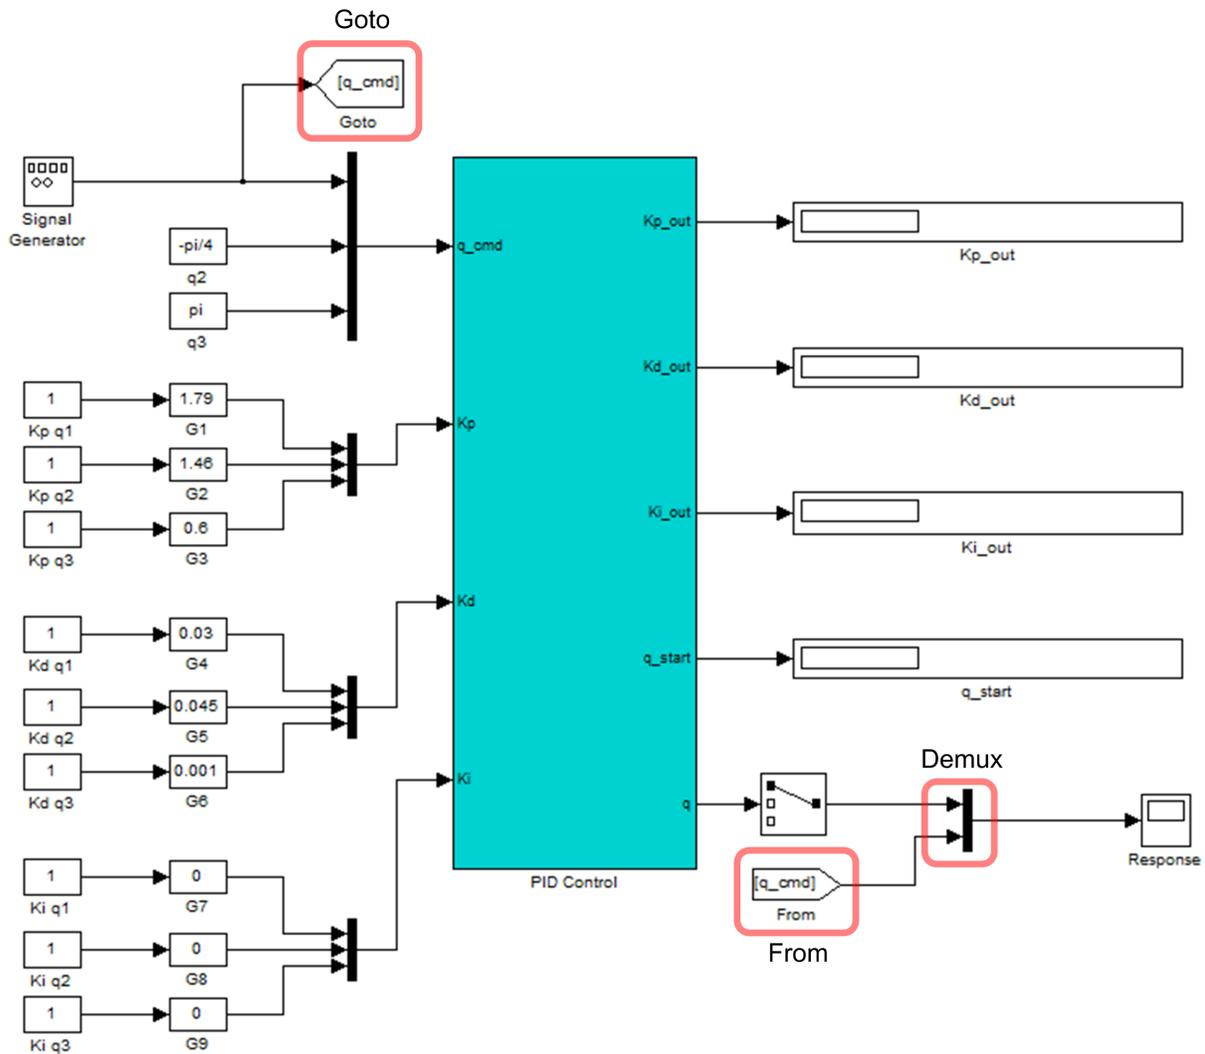

Figure 5.5: Joint 1 position control model
4. Create the model as shown in Figure 5.5. The **Goto** and **From** blocks are used to connect signals and keep the model clutter-free. In this case, the signal from the **Signal Generator** block is connected to one of the inputs of the **Mux** at the output, q . Corresponding **Goto** and **From** blocks must have the same name.
The **Demux** block shown in Figure 5.5 is used to split a signal into its components. In this case, we want to plot the actual position of joint 1 and the commanded position for joint 1 on the same plot.